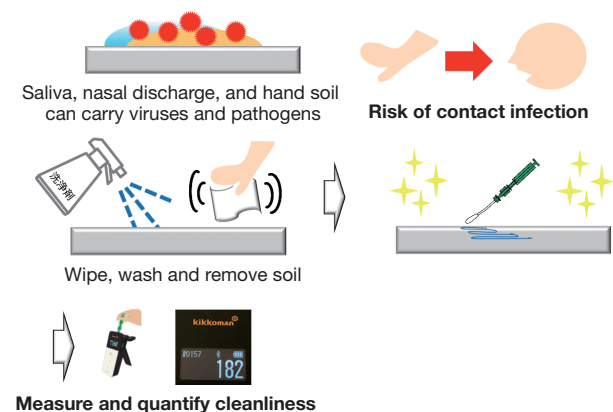

Figure 6
(3) Environmental hygiene -reduction of infection risk-
Improving the environmental hygiene of facilities will reduce the risk of infection. Especially in recent years, from the viewpoint of the prevention of infection with COVID-19, thorough countermeasures against the risk of contact infection have been required. Viruses and pathogens may be attached to “soil” that involves saliva, runny nose, fingers, etc. Cleaning, cleaning, and cleaning the surface to remove dirt, and then ATP Test (Kikkoman A3) to quantify “clean” will improve the reliability of both employees and visitors as “safe and secure locations” (Figure 6). This section (5) provides an example of the effect of cleaning.